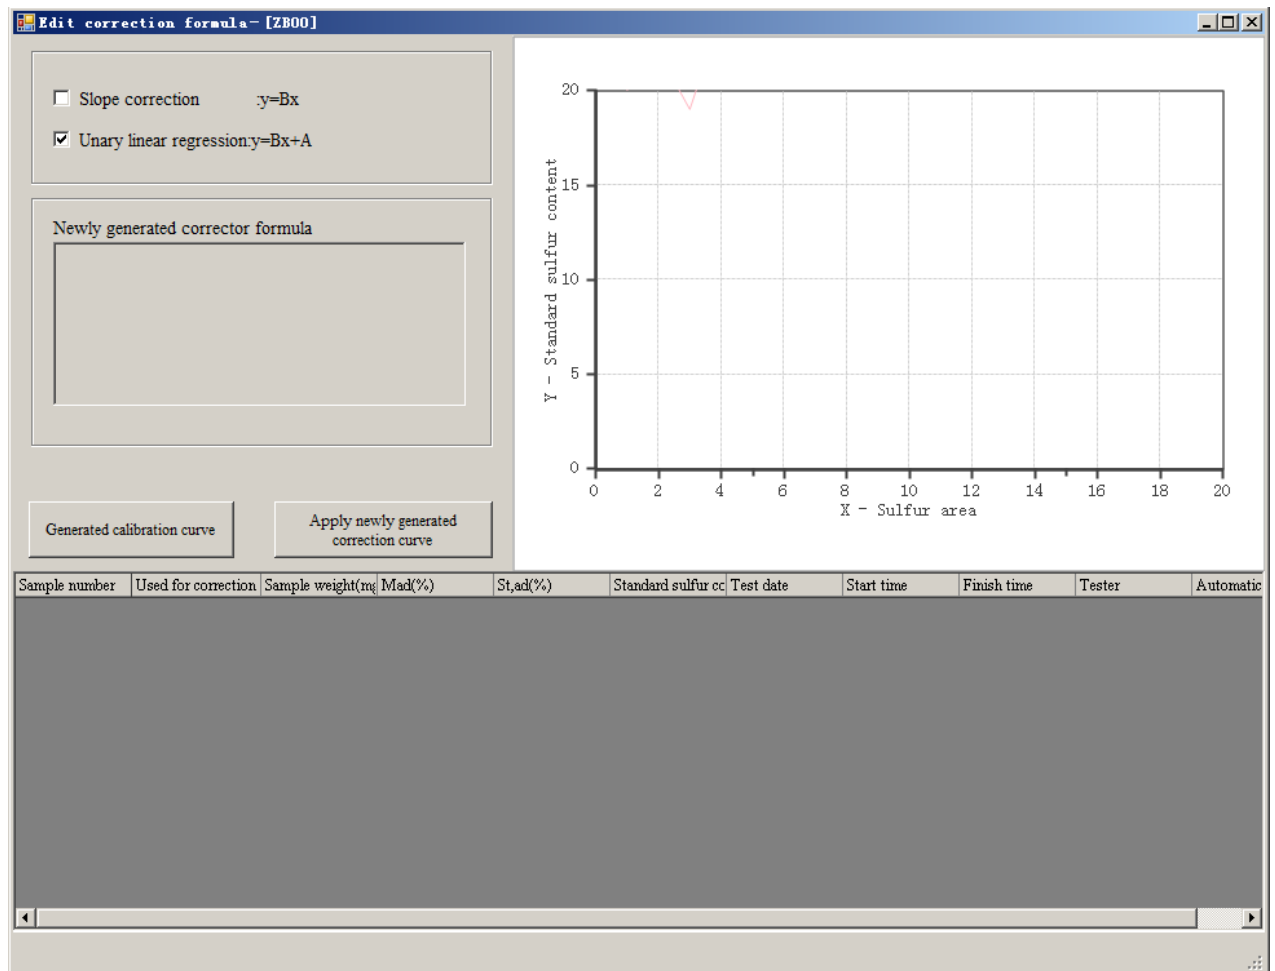

Fig.5-1-8
2. Generate correction formula: Select the record to participate in generating correction formula in the data display column, then click on this option, the window as shown in Fig 5-1-8 will pop up.
3. Edit calibration curve: Click the option the window as shown in figure 5-1-8 will pop up, which is used to view and modify a certain correction formula or linear.